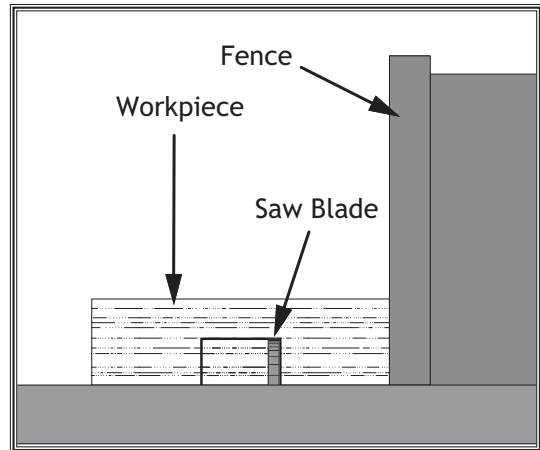

Figure 80. Single-blade dado first cut.
5. If dadoing the length of a workpiece, align the blade to cut one of the dado sides as shown in **Figure 80**.